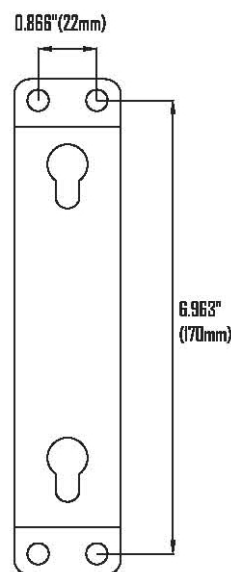

Figure 1 - Wall Bracket
1. Using a #10 drill bit, drill four holes as shown in Figure 1. Make sure to drill holes in a solid wood stud. We recommend the bottom edge of the bracket should be at least 45" above the floor.
2. Secure bracket (Item 39) in position using the four mounting bolts (Item 38). Note the orientation of the supporting bolt holes of the bracket as shown in Figure 1.